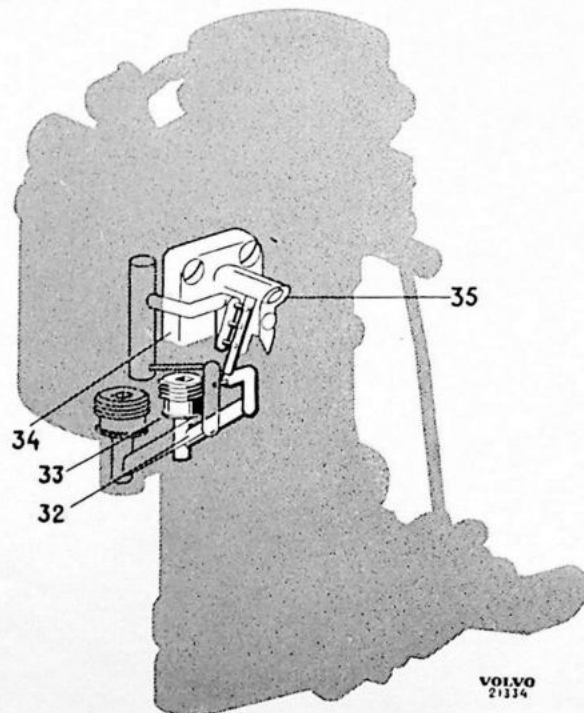

Fig. 21. Main metering system.
The purpose of the main jet system (Fig. 21) is to supply the engine with the main part of the fuel needed at cruising speeds above the idle and low speed range. Fuel travels from the main jet (33) through the passage (32) in the float bowl to the emulsion block (34) and through the pointed nozzle (35) into the carburetor throat.